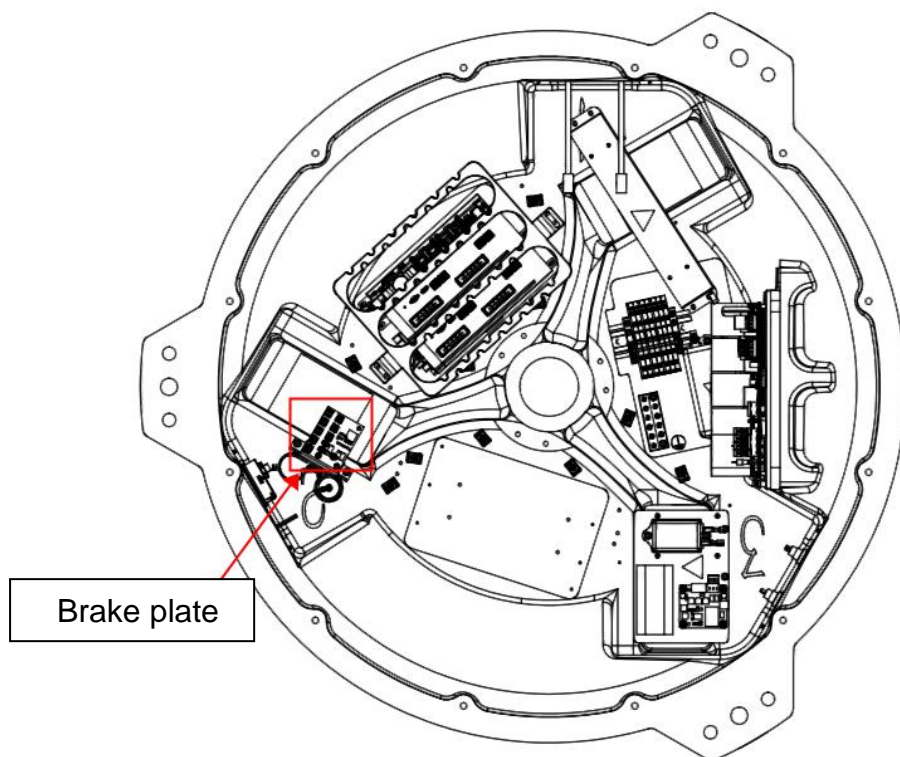

Figure 4-24 Schematic diagram of the position of the brake plate
Step 4 Use an Allen wrench to remove the plate screws securing the lithium battery, as shown in Figure 4-24.